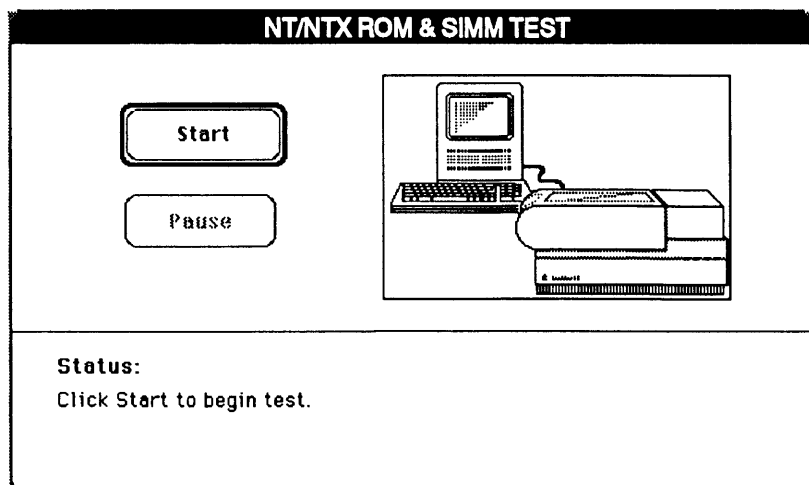

FIGURE 2
3. Open the disk icon and then the *NT/NTX ROM and SIMM Test* icon. The *NT/NTX ROM and SIMM Test* Start window (Figure 2) will appear on the test station screen.